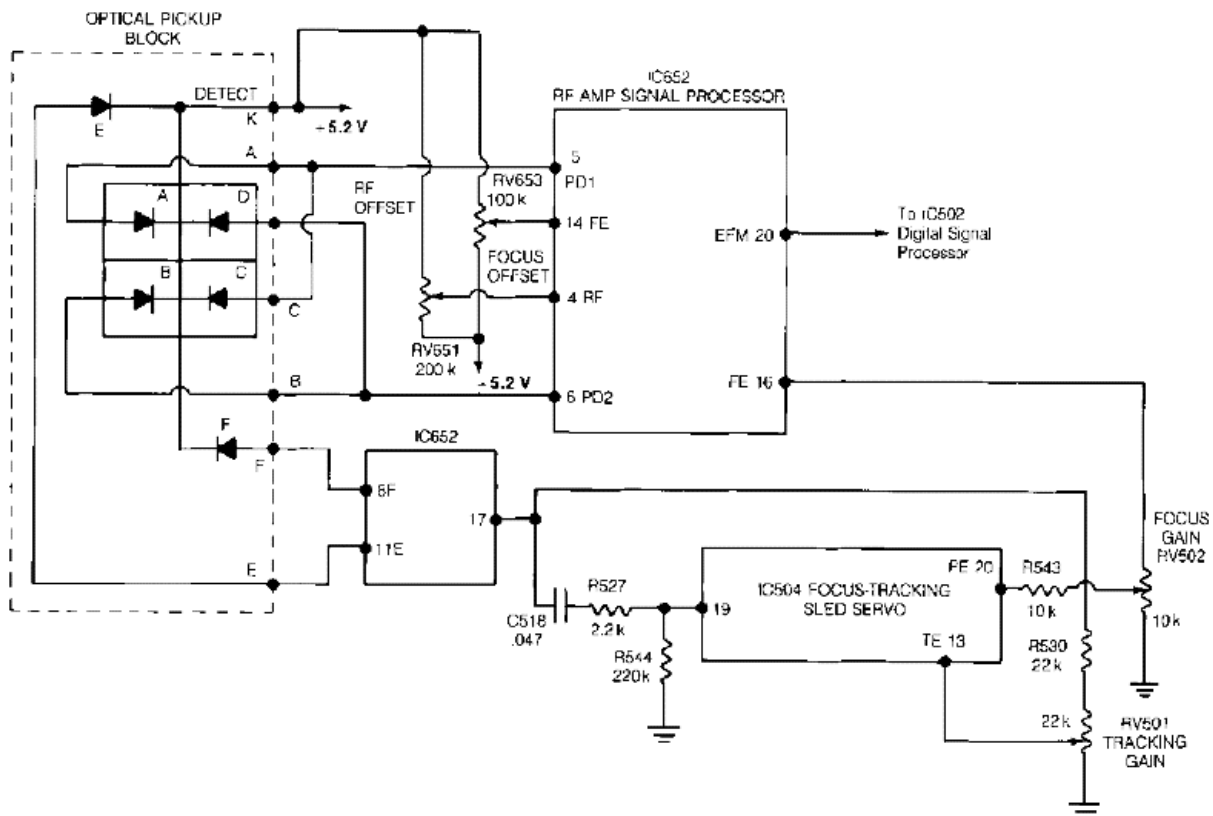

FIGURE 31-3 The photodiode signal is fed to the RF amp IC652 with the EFM output at pin 20.
The preamplifier amplifies the weak RF signal from the photodiodes within the laser pickup assembly. Usually, the preamp generates the RF, TE, and FE signals by amplifying and adding or subtracting the output from the pickup unit of the four photodiode detectors. The laser diode within the Sony CDX-5 auto CD player is furnished a voltage from a -5.2-V and $+5.2\text{-V}$ power source with transistor regulation (Fig. 31-3). The tracking error (E) and focus error (F) diodes' output go to IC652, then to focus/tracking/sled servo IC504.